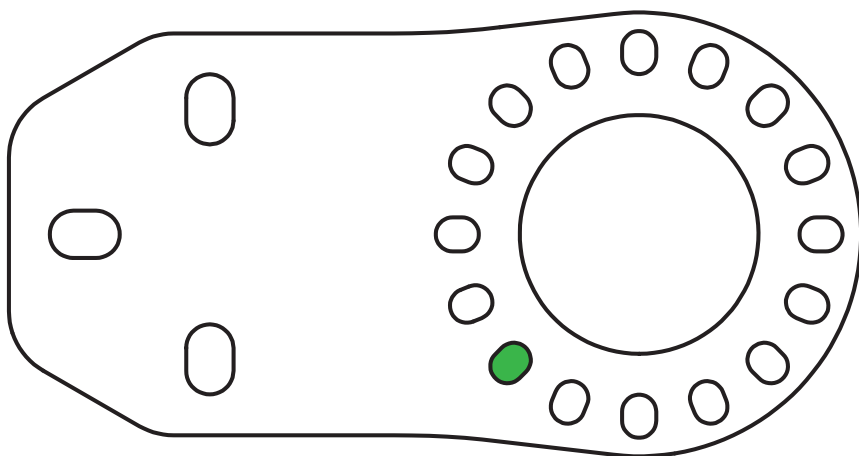

Figure 1 - Preparing the Can Bracket
5. Position the catch can pin into the bracket hole shown in Figure 1.